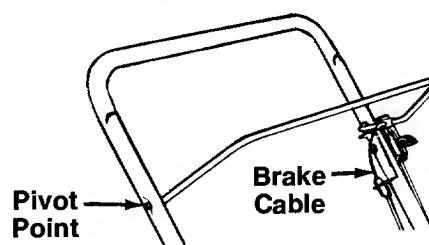

FIGURE 16.
**Blade Control**—Lubricate the pivot points on the blade control handle and the brake cable at least once a season with light oil. See figure 16. The blade control must operate freely in both directions.